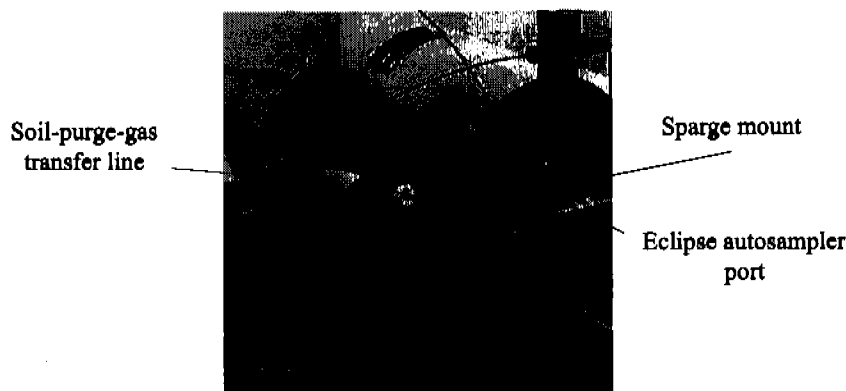

Figure 3.6. Soil-purge-gas transfer line attached to the sparge mount
9. Unscrew the $\frac{1}{16}$ " Valco plug from the left side of the Eclipse sparge mount. Install the $\frac{1}{16}$ " fitting (PN 225557) and $\frac{1}{16}$ " ferrule (PN 112433) supplied in the interface kit onto the end of the soil-purge-gas transfer line (Figure 3.6).